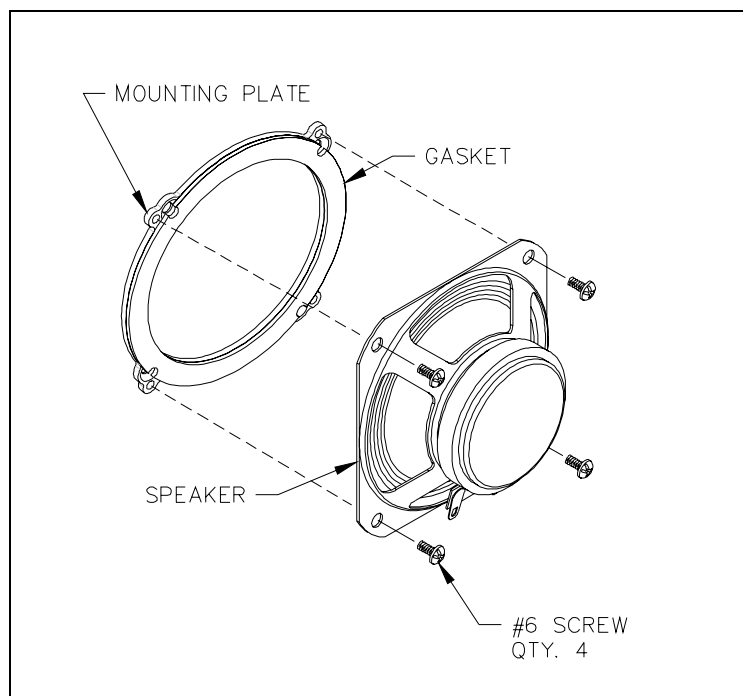

Figure 2. Models 293-xxx, 293AL-xxx, and 294AL-xxx
5. Remove the four #6 screws attaching the speaker to the speaker-mounting plate. Refer to Figure 2.